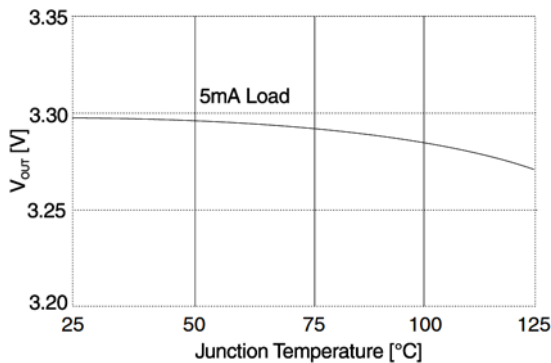

Figure 12. Output Voltage vs. Temperature
**Output Voltage vs. Temperature.** Figure 12 shows the regulator  $V_{OUT}$  performance up to the maximum rated junction temperature. The overall 100°C variation in junction temperature causes an output voltage change of about 30 mV, reflecting a voltage temperature coefficient of 90 ppm/°C.